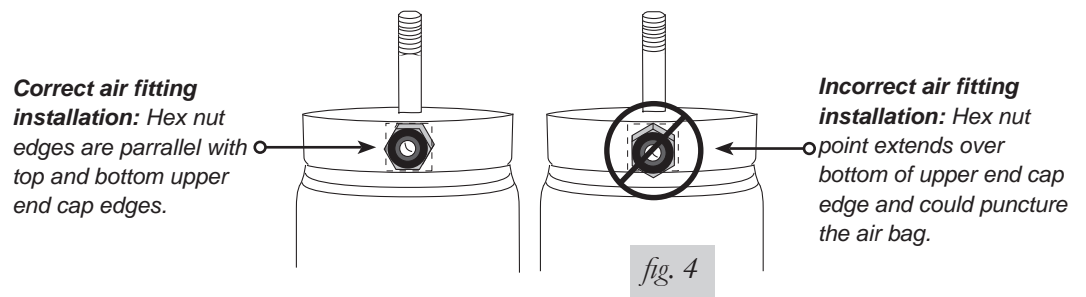

fig. 4
1. Prior to installing the strut, attach the air fitting provided to the threaded port at the top of the air spring Seal with Teflon tape or thread sealant (fig. 4).